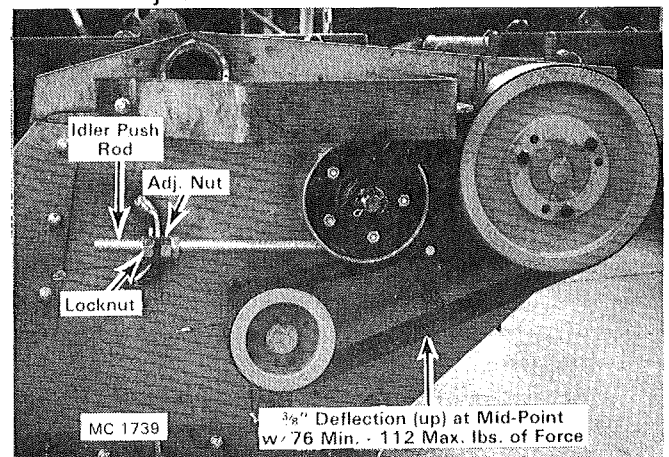

Figure 30
2. Correct belt tension is $\frac{3}{8}$ " upward deflection (full width of the belts) at mid point with a force of 76 lbs. min. - 112 lbs. max., see Figure 30.